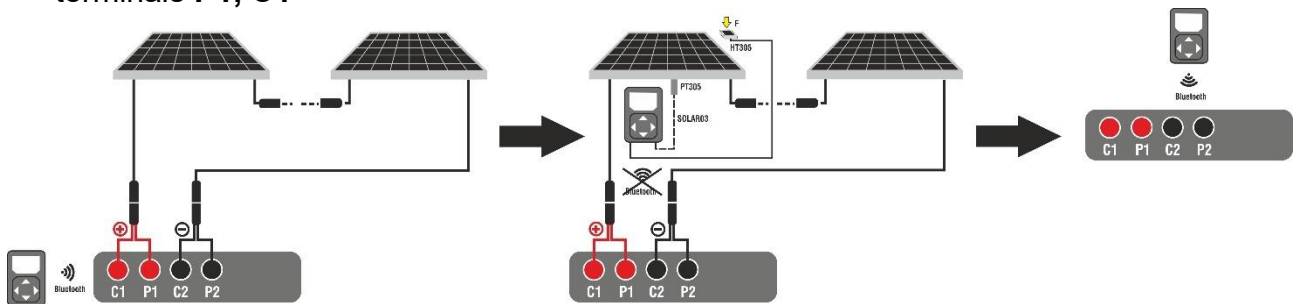
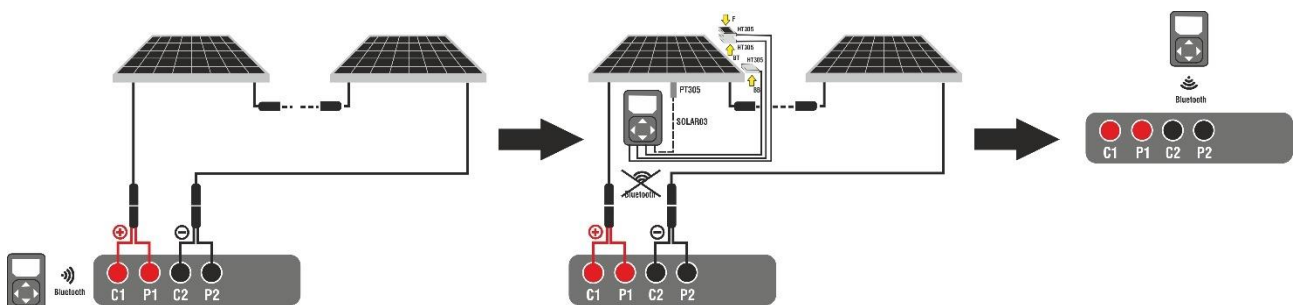

Fig. 69: Connection with SOLAR03 in synchronous recording on Monofacial modules
Fig. 70: Connection with SOLAR03 in synchronous recording on Bifacial modules
2. Connect the instrument to the module/string being tested as shown in Fig. 69 (Monofacial modules) or Fig. 70 (Bifacial modules). In detail, connect the negative pole output of the module/string to terminals **P2, C2** and the positive pole output of the module/string to terminals **P1, C1**
3. Move the SOLAR03 remote unit close to the instrument as shown in Fig. 69 or Fig. 70 – left side part
8. **Move the remote unit close to the modules** and connect the irradiance and temperature probes (if necessary) as shown in Fig. 69 or Fig. 70 – middle side part. In particular:
- **In case of Bifacial modules**→, position the **three HT305 reference cells** on the front surface of module (**F**), on the top back section(**BT=BackTop**) and on the bottom back section (**BB=BackBottom**) of the module. Connect the front reference cell (F) to input “**INP1**”, BT reference cell to input “**INP2**”, BB reference cell to input “**INP3**” and **possibly** the temperature probe **PT305** to input “**INP4**” of the remote unit. In accordance with the IEC/EN60904-1-2 standard, the instrument calculates the equivalent front-side Irradiance (**Irreq**) value, which corresponds to the Irradiance on the front surface only, which produces the same effects as the Irradiance measured on both sides, considering the **bifaciality factor** ( $\varphi$ ) of the module according to the following relationship:
18. **At the end of the test session**, disconnect the SOLAR03 remote unit, place it close to the instrument (see Fig. 69 or Fig. 70 – right side part) and check that it automatically reconnects to the instrument